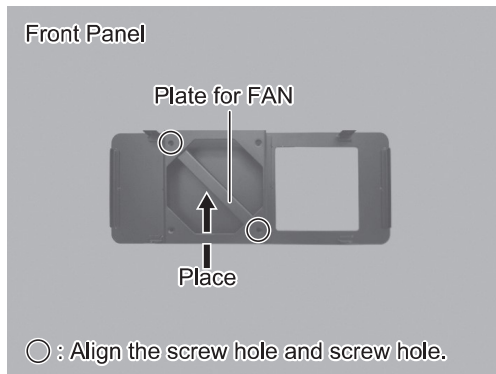

Fig. 45
- (9) Position the Plate for FAN on the Case (Front Panel) as shown in Fig. 45.